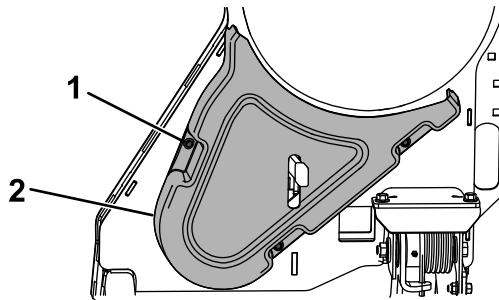

Figure 29
3. Remove the belt cover (Figure 29).